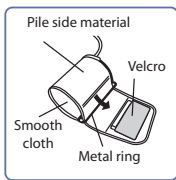

Fig. 2
2. The cuff is located correctly when the velcro is on the outside of the cuff and the metal ring does not touch the skin (Fig. 2).